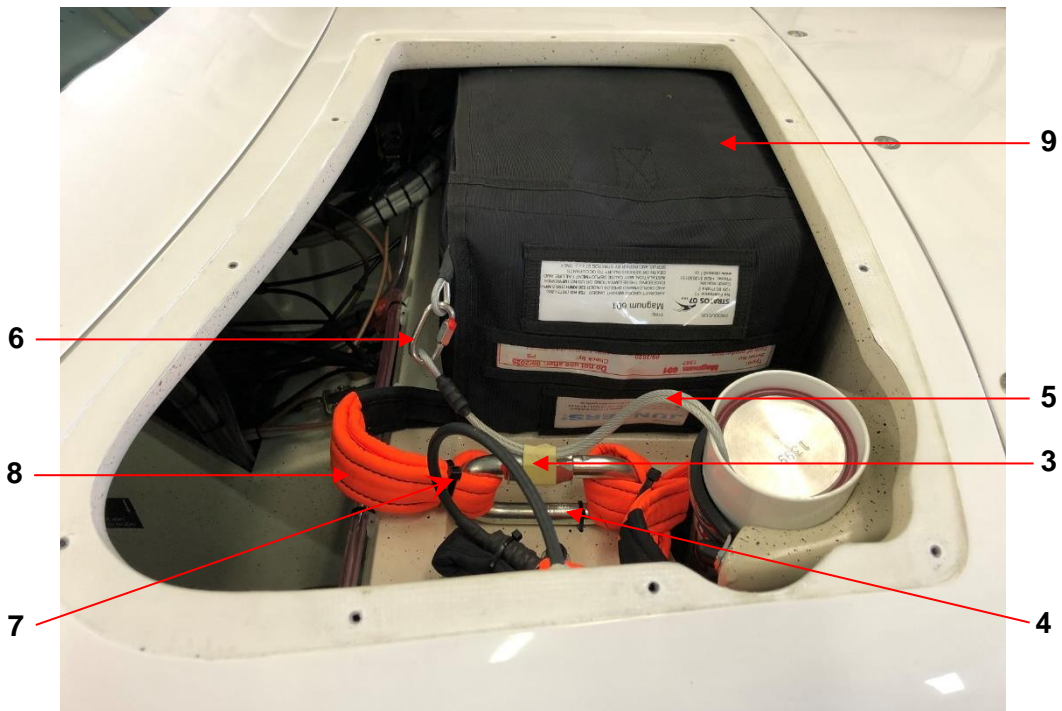

Fig. 3
3. Pull the parachute fabric container (9; Fig. 3) and parachute strap (11; Fig. 6) backward from the firewall.
5. If the parachute fabric container (9; Fig. 3) and parachute strap (11; Fig. 6) cannot be pulled enough from the firewall to install the parachute front spacer, continue with step 6, otherwise continue with step 25.
6. Remove the paper tape (3; Fig. 3) and release the rocket rope (5).
9. Remove the parachute fabric container (9; Fig. 3) from the aircraft.
22. Insert the rocket rope (5; Fig. 3) into the rocket snap hook (6), apply Loctite 243 on the thread of the rocket snap hook (6) and tighten the nut using 8 mm wrench.
23. Insert the parachute strap (8; Fig. 3) into the parachute snap hook (4), secure the parachute strap by a cable tie (7), apply Loctite 243 on the thread of the parachute snap hook (4) and tighten the nut using 22 mm wrench.